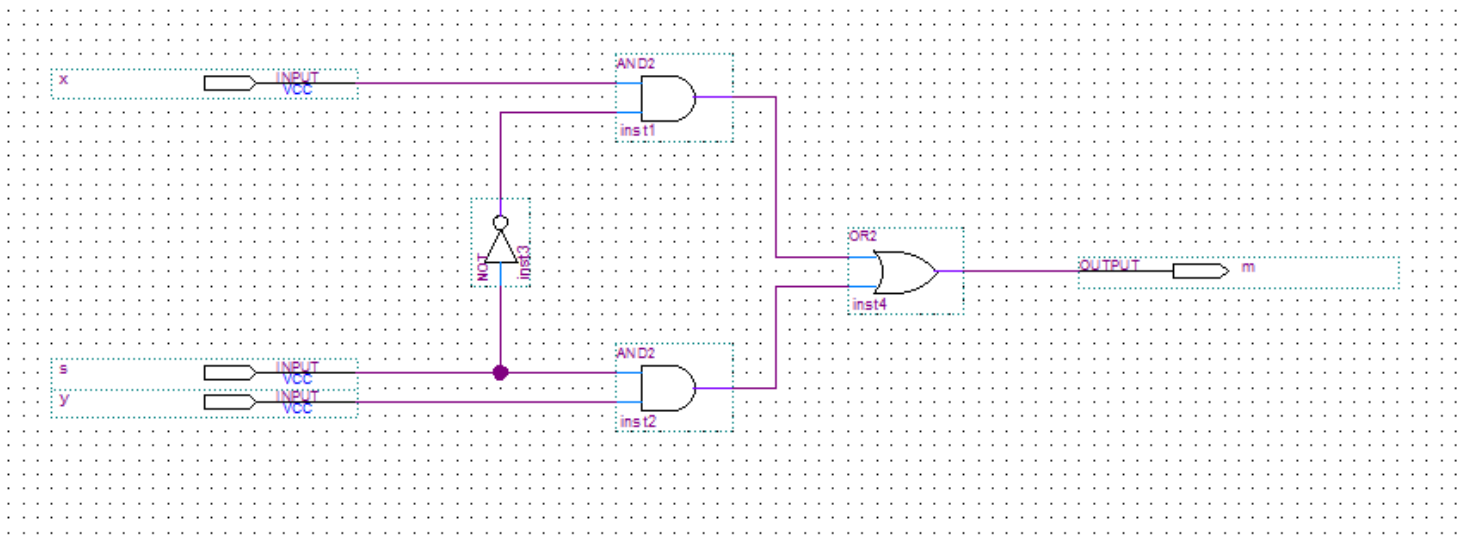

Fig 14. Exercise Schematic
2. Draft the schematic look like Fig 14.